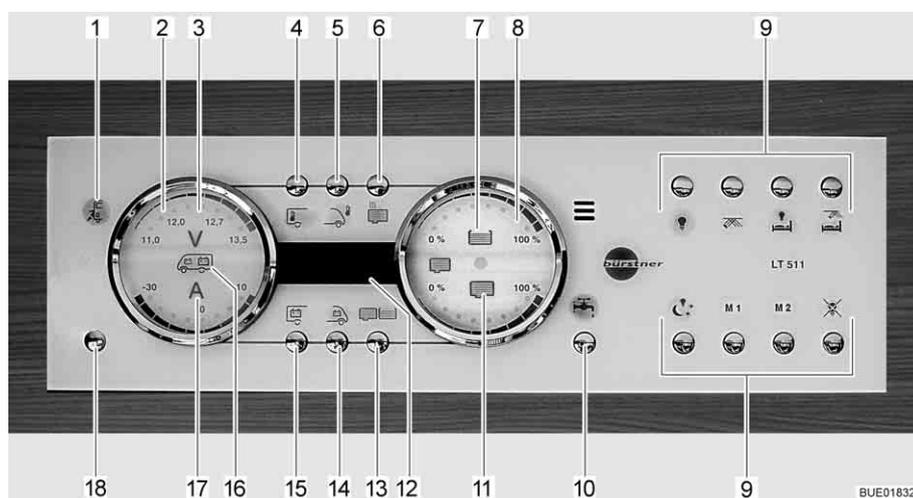

Fig. 165 Panel LT 511
The 230 V indicator lamp (Fig. 165,1) illuminates whenever line voltage is available at the transformer/rectifier input.
The 12 V main switch (Fig. 165,18) switches the panel and the 12 V power supply of the living area on and off.
- Briefly press the 12 V power supply button (Fig. 165,18). The 12 V living area power supply is switched on. The "12 V" indicator lights up.
- ▷ If, after switching on, the "11.0" LED of the volt indicator and the "V" volt symbol (Fig. 165,3) in the batteries gauge (Fig. 165,2) flash, the voltage of the living area battery is too low. Charge battery.
- ▷ If, after switching on, the "12 V" indicator and the "V" volt symbol (Fig. 165,3) flash three times, battery separation is activated. Deactivate battery separation.
- Briefly press the 12 V power supply button (Fig. 165,18). The 12 V living area power supply is switched off. The "12 V power supply" indicator goes out.
- Press button for living area battery (Fig. 165,15) and hold it down for approx. 10 seconds. The "V" volt symbol (Fig. 165,3) and the "12 V" indicator flash three times. The living area battery is disconnected from the 12 V power supply.
- Press the 12 V power supply button (Fig. 165,18) and hold it down for approx. 5 seconds. The "V" volt symbol (Fig. 165,3) and the "12 V" indicator flash three times. The living area battery is connected to the 12 V power supply. The indicator lights up after approx. 5 seconds.
- Press button for living area battery (Fig. 165,15). The "V" volt symbol (Fig. 165,3) lights up. The "A" ampere symbol (Fig. 165,17) lights up as either white or red depending on whether it is charging or discharging. The battery voltage and electricity of the living area battery are displayed via the LEDs in the gauge.
- Press button for starter battery (Fig. 165,14). The "V" volt symbol (Fig. 165,3) lights up. The battery voltage of the starter battery is displayed using the LEDs in the gauge.
- Press tanks button (Fig. 165,13). The water tank (Fig. 165,7) and waste water tank (Fig. 165,11) symbols light up. The fill levels of the water tank (upper scale) and of the waste water tank (lower scale) are indicated using the LEDs in the gauge.
Tank alarm The water tank symbol (Fig. 165,7) or waste water tank symbol (Fig. 165,11) flashes when the water tank is empty or the waste water tank is full.
The internal and external temperatures can be indicated using the digital display (Fig. 165,12).
Displays: ■ Press the button for the internal temperature (Fig. 165,4). The internal temperature is displayed.
■ Press external temperature button (Fig. 165,5). The external temperature is displayed.
The tank heater can be turned on and off using the tank heater button (Fig. 165,6).
Switching on: ■ Press the tank heater button (Fig. 165,6). The tank heater symbol lights up.